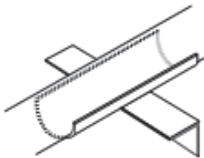

Figure 8. Sleeve
**NOTE:** Properly spaced supports do not alleviate the need for guides as recommended in the preceding section. Supports that make only point contact or that provide narrow supporting areas should be avoided. Some means of increasing the supporting area should be used; support saddles as shown in Figure 8 are acceptable. Contact FGS for saddle availability. Support pumps, valves, and other heavy equipment independent of the pipe.